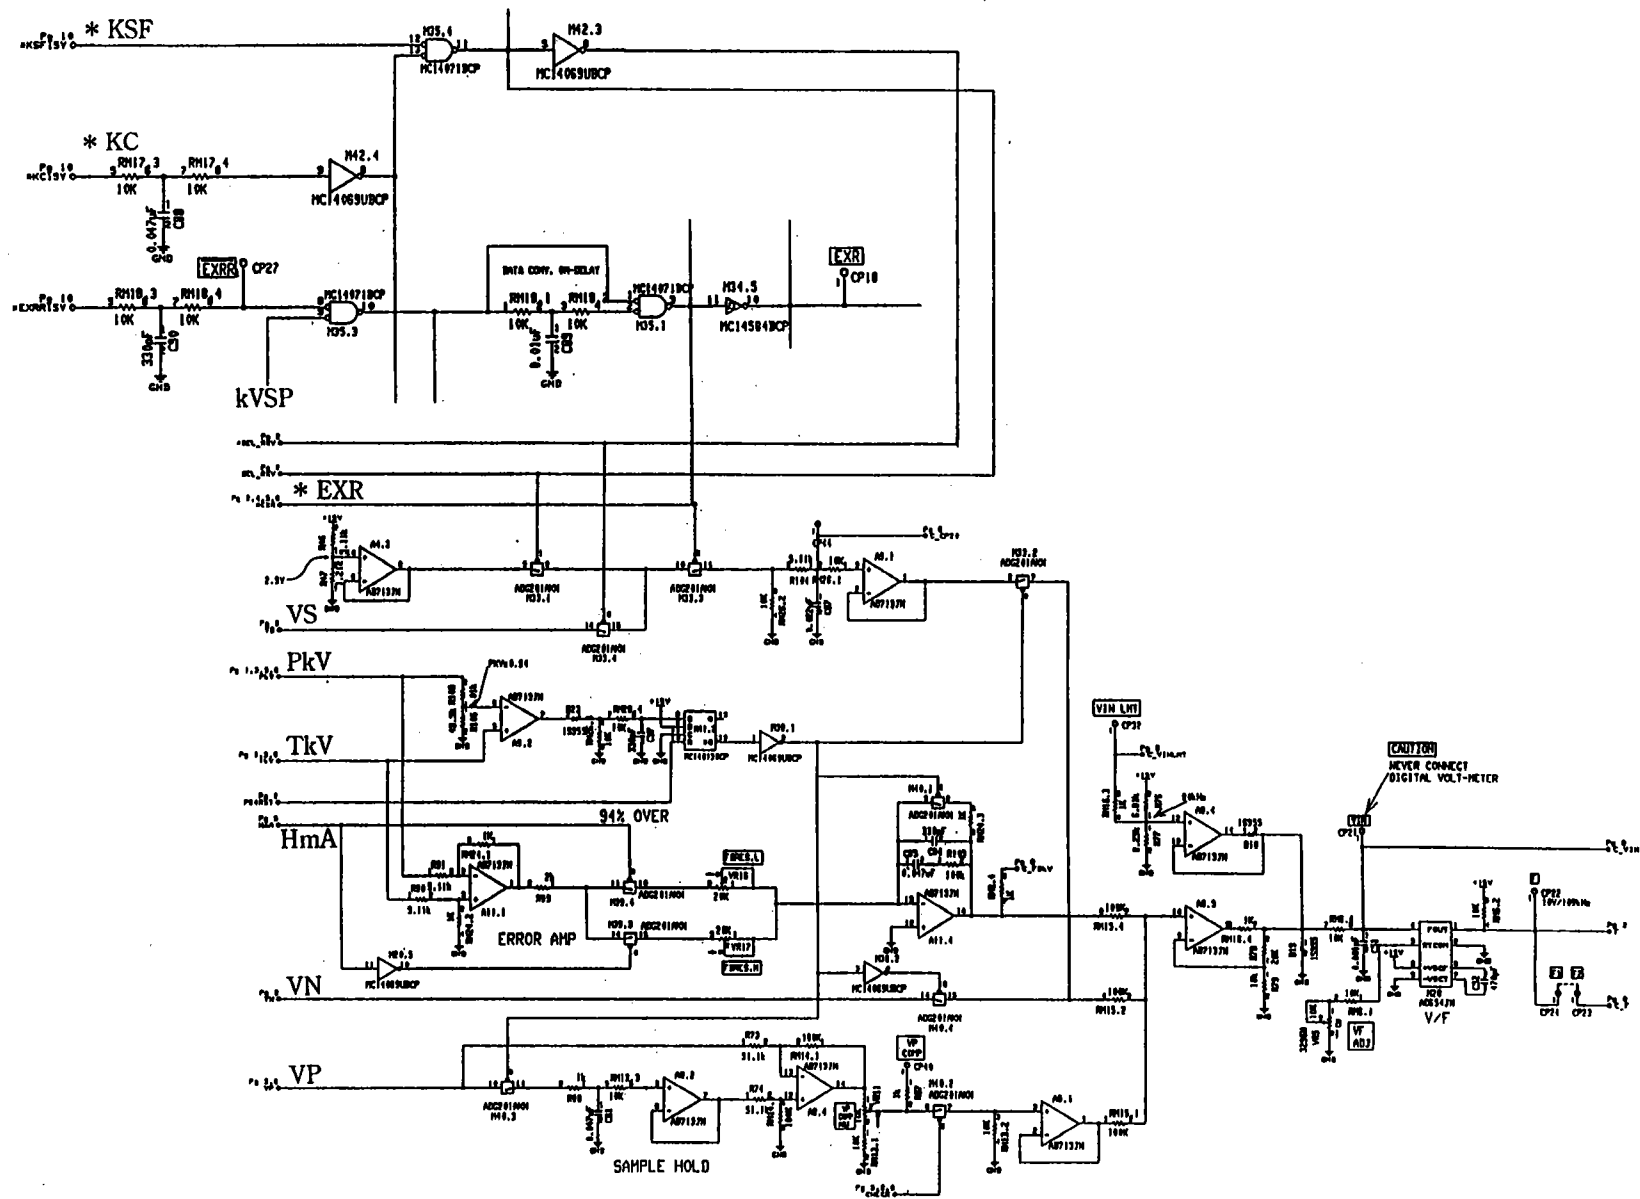
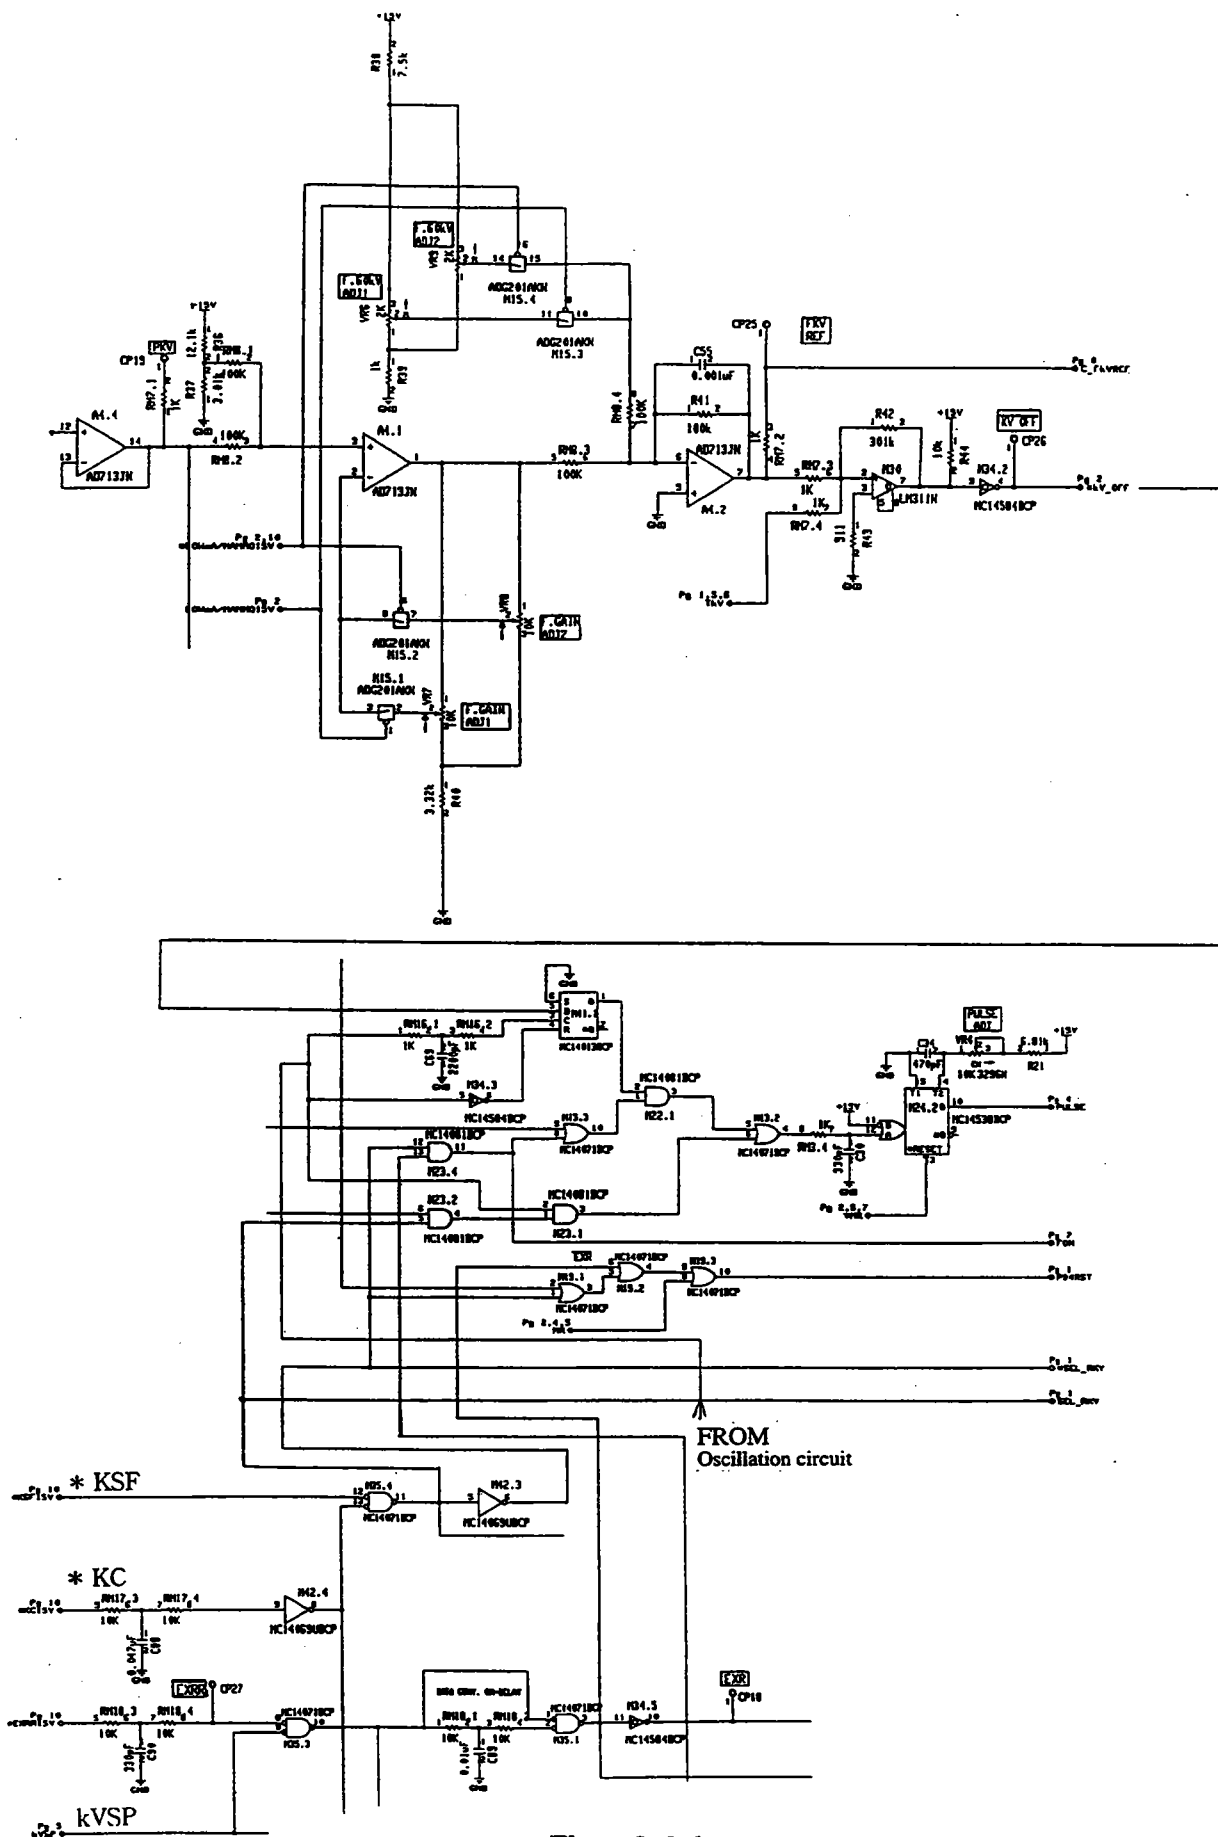

Fig. 3.4.3
Fig. 3.4.4
Refer to Fig. 3.4.3 and Fig. 3.4.4.
Fig. 3.4.3 shows a circuit that supplies a 2.9V signal to the oscillation circuit (refer to (1) in section 3.3) when X-RAY ON is executed in fluoroscopic operation. (Oscillator frequency: 31 kHz, inverter frequency: 15.5 kHz)
Fig. 3.4.4 shows a circuit in which the inverter is turned ON and OFF (15.1 kHz) so that the measured tube voltage and the set tube voltage are made equal in fluoroscopic operation.
As shown in Fig. 3.4.4, a comparator M30 compares the $\boxed{\text{FKVREF}}$ signal with the measured tube voltage $\boxed{\text{TKV}}$.
Refer to Fig. 3.4.3.